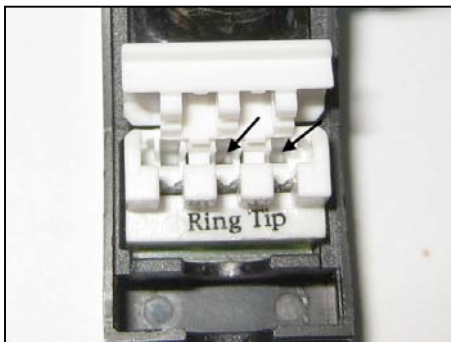

fig. 1
2. Insert a pair of wire vertically into the wire slot as shown in fig. 1 & 2.